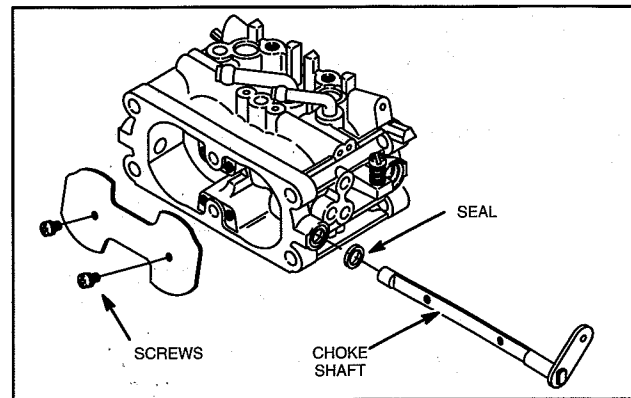

Fig. 49 – Remove Choke Shaft
12. Remove choke shaft and seal, Fig. 49.